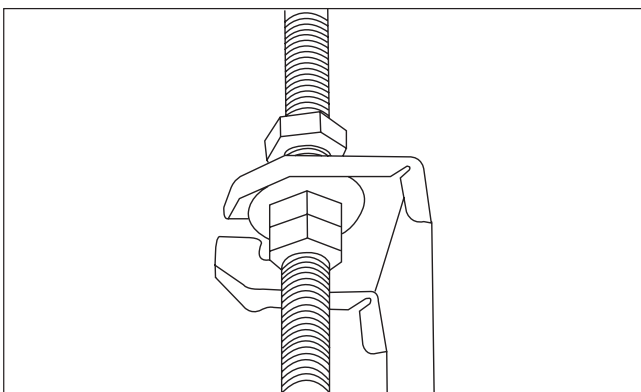

Fig. 8.
7. Mount the indoor unit with at least two people to lift and secure it. Insert suspension bolts into the unit's hanging holes. Fasten them using the washers and nuts provided. (See Fig. 8).